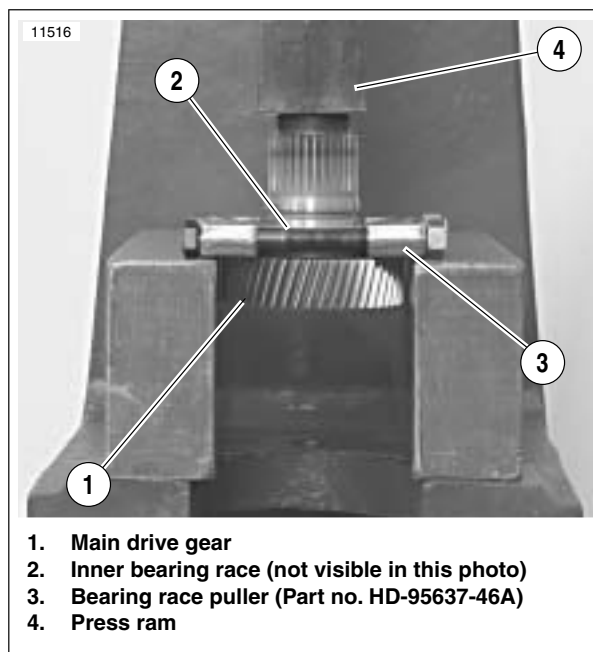

Figure 6-71. Removing Inner Bearing Race From Main Drive Gear
4. See Figure 6-71. Attach BEARING RACE PULLER (Part No. 95637-46A) (3) to inner race (2) on main drive gear (1).